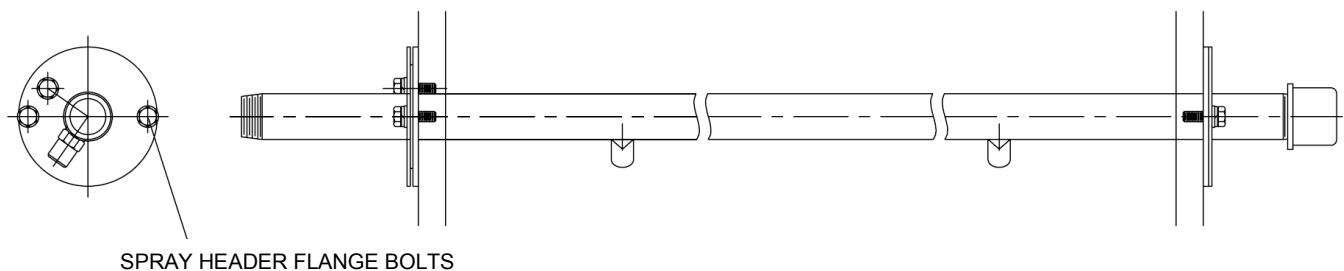

Figure 4-11. Replacement of the Shower Nozzles
3. Remove spray bar flange bolts. See figure 4-11.